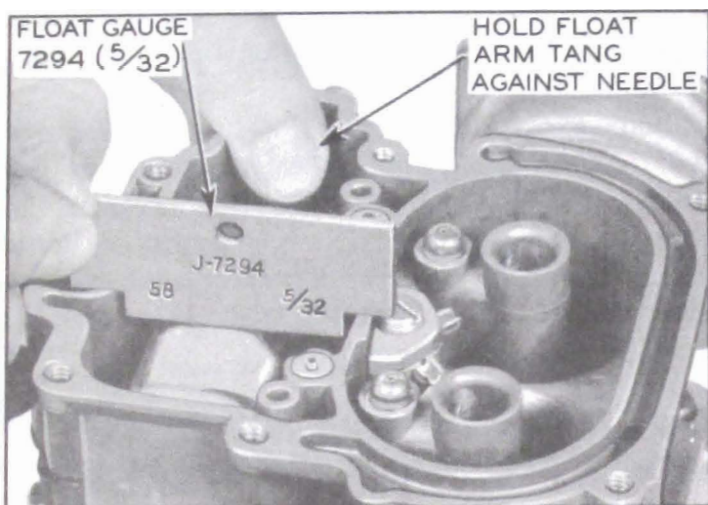

Figure 3-73—Float Level Adjustment
9. Hold float arm tang against float needle; then check float level using Float Gauge J-7294 ($\frac{5}{32}$ ") (without gasket). See figure 3-73. If top